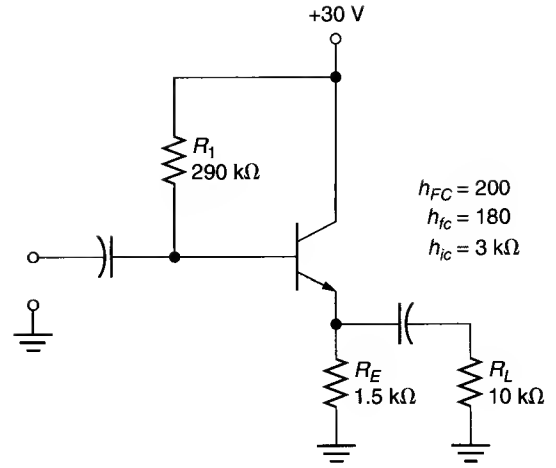

FIGURE 10.25
14. Determine the value of Z_{in} for the circuit shown in Figure 10.25.